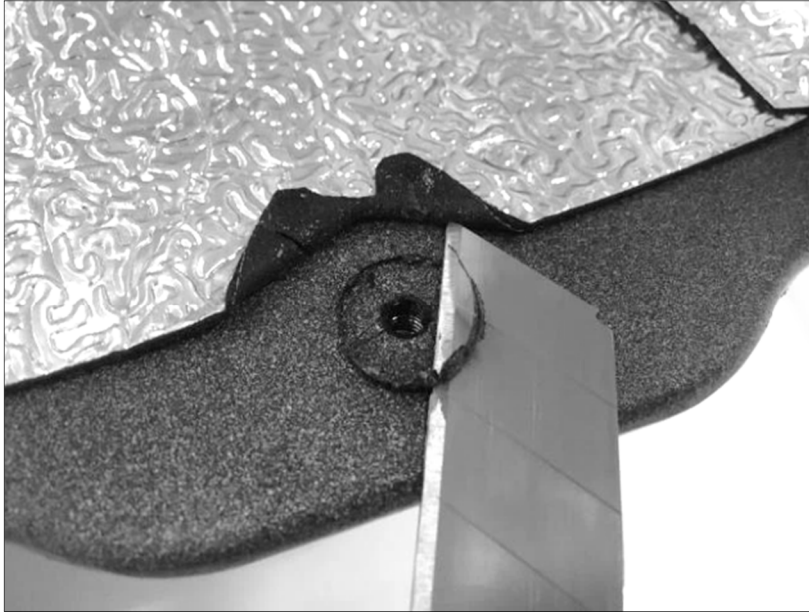

FIG. 9
13. Remove the burrs by placing a knife blade down flat (FIG. 9).